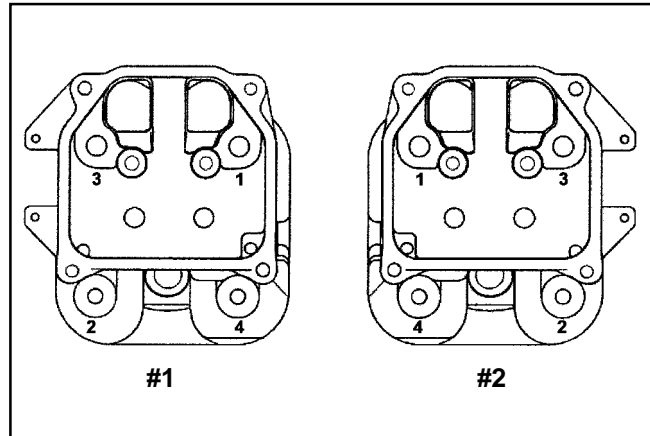

Figure 11-42. Cylinder Head Fastener Torque Sequence.
4. Torque the hex. flange screws in two stages; first to **22.6 N·m (200 in. lb.)**, then finally to **41.8 N·m (370 in. lb.)**, following the sequence in Figure 11-42.
6. Lightly lubricate the exposed (upper) threads of the studs with engine oil. Install a flat washer and hex. nut onto each of the mounting studs. Torque the hex. nuts in two stages; first to **16.9 N·m (150 in. lb.)**, then finally to **33.9 N·m (300 in. lb.)**, following the sequence in Figure 11-42.